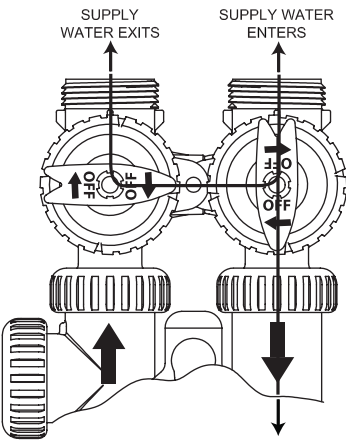

FIGURE 3
Figure 3. Diagnostic Position: The inlet handle points in the direction of flow and the outlet handle points to the center of bypass valve, system water pressure is allowed to the control valve and the plumbing system while not allowing water to exit from the control valve to the plumbing.
Step 2: Press and Hold the REGEN button on the Triton until you hear the motor engage. This will initiate an immediate manual regeneration of the system. Turn the bypass valve to "diagnostic" mode position (see figure 3 on page 6). (You should hear water entering the system.) Wait a few minutes to ensure the control valve can draw water and does not leak. Allow the system to backwash until the water going to drain is clear. If everything is working, press and release the REGEN button. You will hear the motor engage and move the piston into the "Brine Dn" position. Check the brine line for leaks or suction. You should hear the valve drawing brine. Continue to skip cycles by pressing and releasing the REGEN button (wait for the motor to stop before pressing REGEN) until you reach the "Brine Fill" position. This ensures that water will go to the brine tank. Fill tank 3" to 4" above salt grid. Make sure enough water is in the brine tank to dissolve the correct amount of salt for regeneration (1 gallon of water will dissolve 3 lbs. of sodium chloride). Allow the brine tank to fill with water to air check level. If the system needs 6 lbs. of salt to regenerate, then at least 2½ gallons of water must be in the brine tank above air check in the brine well. The extra ½ gallon is an additional measure for evaporation or loss. (6 ÷ 3 = 2 gallons of water plus ½ gallon). Fill the brine tank with salt. (We recommend potassium chloride (KCl) instead of rock salt.) Once the brine tank is filled to this level, press REGEN once more to return the valve to service. You should hear the motor engage for a short period and then a long period.
Step 2: Press and Hold the REGEN button on the Triton Valve until you hear the motor engage. This will initiate an immediate manual regeneration of the system. Turn the bypass valve to "diagnostic" mode position (see figure 3 on page 6). (You should hear water entering the system.) Wait a few minutes to ensure the control valve can draw water and does not leak. Let the tank fill and begin to push water out the drainline. Allow the system to backwash until the water going to drain is clear. If everything is working, press and release the REGEN button. You will hear the motor engage and move the piston into the "Brine Dn" position. Check the Brine Line Air Check Valve for leaks and suction. You should hear the valve drawing air. If everything is working, press and release the REGEN button. You will hear the motor engage and move the piston into the "Rinse" position. Allow valve to continue pushing water to the drainline until the water coming out of drainline is clear. After a few minutes, you will hear the motor engage and move the piston into the SERVICE position. If the water coming out of the drainline is not clear by the end of the above cycles, repeat Step 2 above with bypass in "diagnostic" mode position (see figure 3 on page 6).